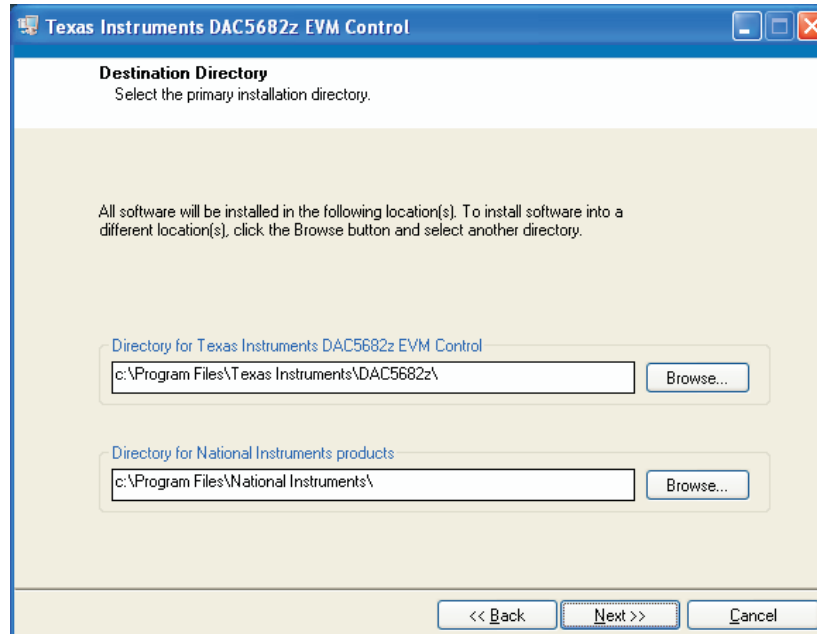

Figure 6. Destination Directory
2. The destination folder for the installed software displays (Figure 6). TI recommends you accept the default folder location. Any necessary folders are created by the installation software, if they do not